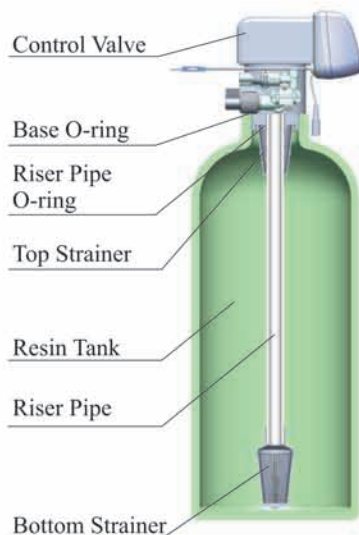

Figure 1-1
⑥ Do not install the filter or softener, drain pipeline in circumstance which temperature may drop below 5°C, or above 50°C.
⑦ The system should be installed in a place where there will be the minimum loss in case of water leakage.
① Install control valve
a. As the Figure 1-1 shows, select the riser pipe with 26.7mm OD, glue the riser pipe to the bottom strainer and put it into the mineral tank, cut off the exceeding tube out of tank top opening. Plug the riser tube in case of mineral entering.